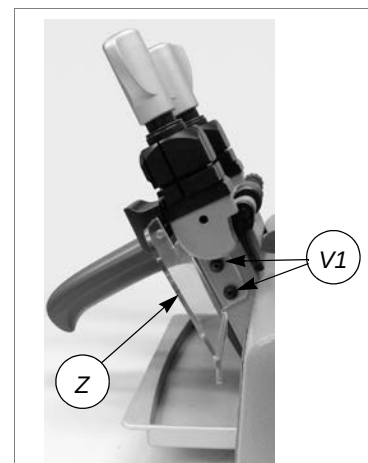

Fig. 30
- 2) Loosen the two screws (V1) and remove the swarf protection (Z) (fig.30).